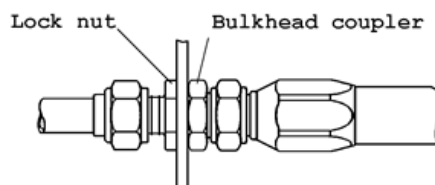

FIG 24.
- iv. To both anchor and connect lines. This adaptor is called a bulkhead coupler. (Fig 24)